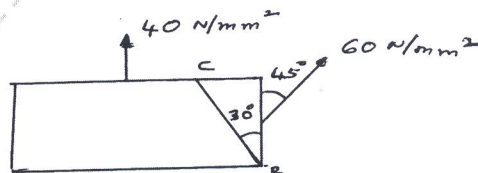

Fig.Q3(a)
- 3 a. An element is subjected to stresses as shown in Fig.Q3(a). Determine (i) Principal stresses and their directions analytically (ii) Normal and tangential stress on the plane BC analytically. (10 Marks)